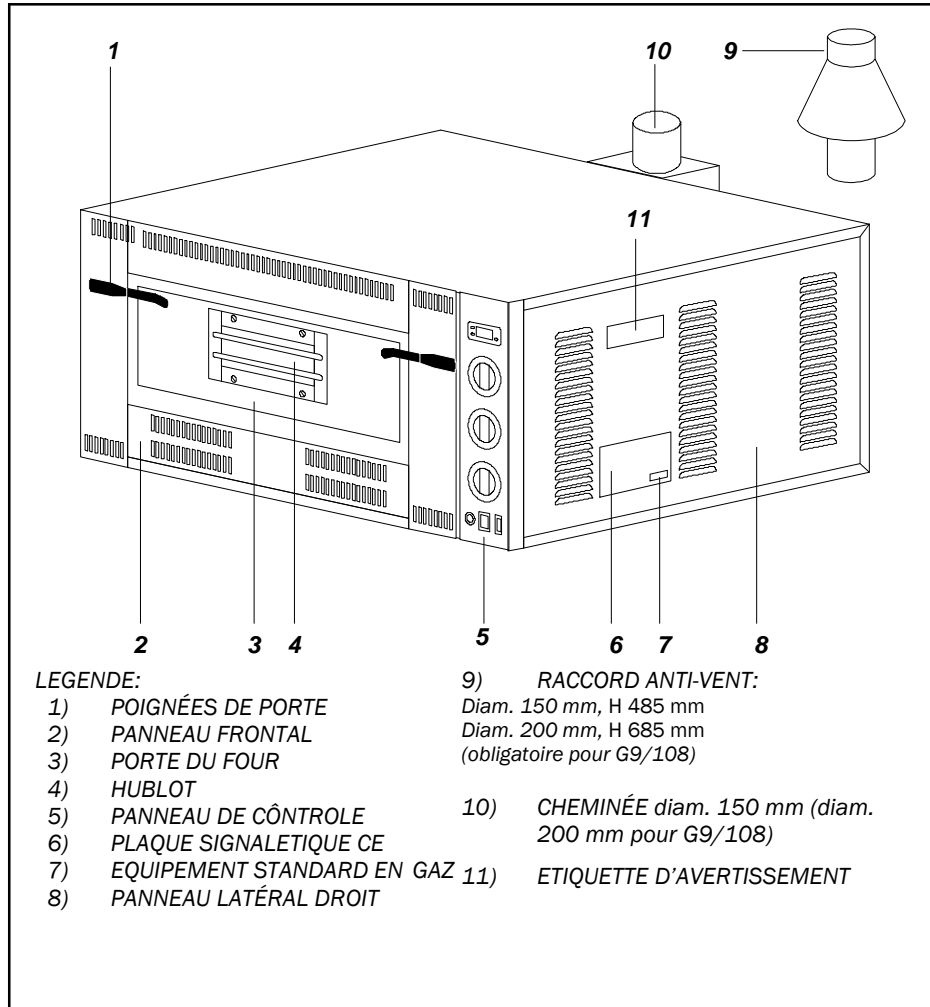

FIG.3 (DÉSCRIPTION COMPOSANTS)
- DÉVISSER LE PANNEAU FRONTAL (FIG.3-RÉF.2);
- DEVISSER LE PANNEAU FRONTAL (FIG.3-RÉF.2);
- DÉVISSER LE PANNEAU LATÉRAL DX (FIG.3-RÉF.8);
ENLEVER LE PANNEAU FRONTAL (FIG.3-RÉF.2); EN DÉVISSANT LES RACCORDS SPÉCIAUX DE BRANCHEMENT DÉSASSEMBLER LES CANALISATIONS DU GAZ QUI SE TROUVENT DEVANT LES BRÛLEURS À REMPLACER;
- 1) OUVRIR MANUELLEMENT LA PORTE DU FOUR (FIG.3-RÉF.3) PAR LES POIGNÉES SPÉCIALES (FIG.3-RÉF.1);